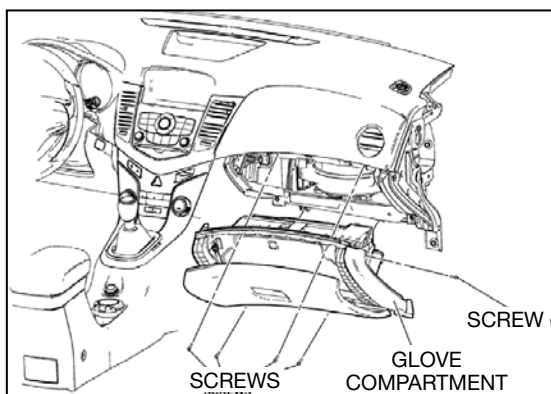

Fig. 10
4. Remove glove compartment mounting screws and lift compartment out from instrument panel (see Fig. 10).